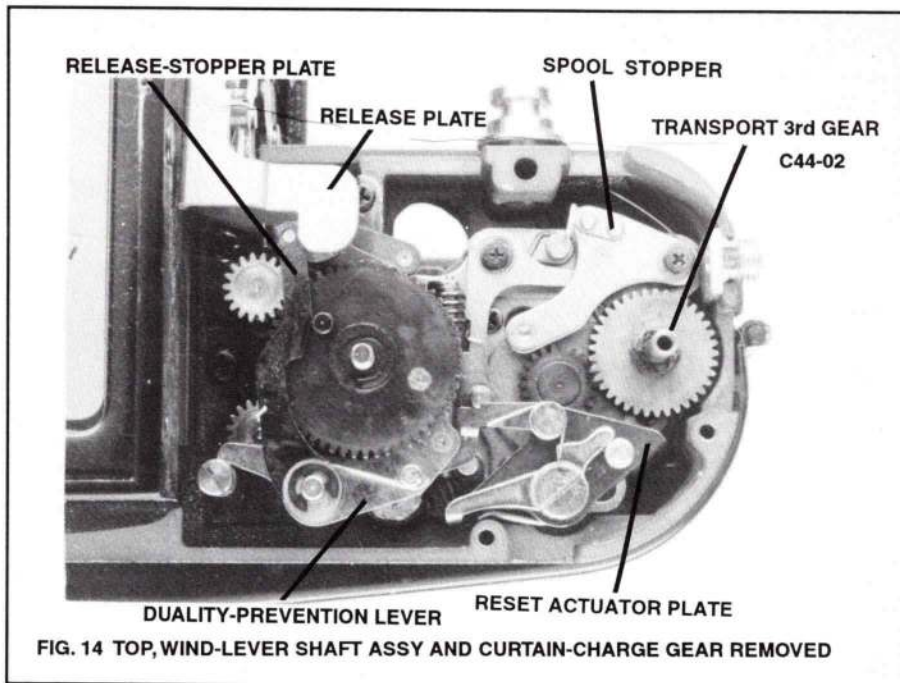

FIG. 14 TOP, WIND-LEVER SHAFT ASSY AND CURTAIN-CHARGE GEAR REMOVED
wind lever (and main gear) to the start position—the curtain-charge gear should then push the release-stopper plate, Fig. 14, toward the mirror box.
With the lever pawl removed, the curtains and mirror should charge—even without film in the camera. Release the shutter by pushing down the release plate, Fig. 14.
6. Check the coupling of the first-frame stabilizer, Fig. 29. With the shutter released, there should be a clearance of 0.2-0.5mm between the D-shaped stud of the stopper-release lever and the latching step of the first-frame stabilizer. When you close the back cover, the first-frame stabilizer should engage the stopper-release lever as shown in Fig. 14.
1. remove release-stopper plate, Fig. 14 (E-clip and washer—spring stays with release-stopper plate)